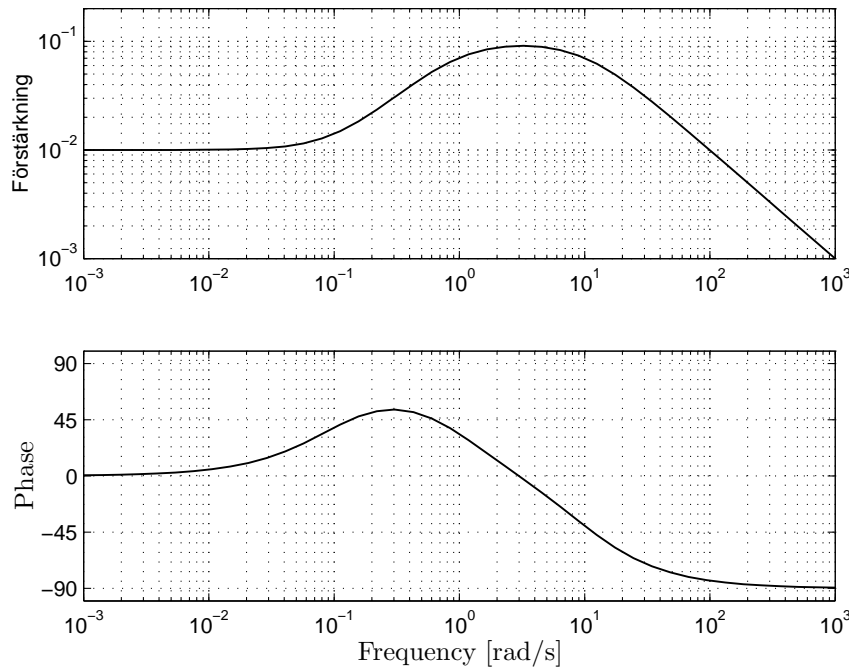

Figure 5.1 The Bode plot in assignment 5.3.
- b. The Bode plot of the system is shown in figure 5.1. Determine the output $y(t)$ by using the Bode plot instead.